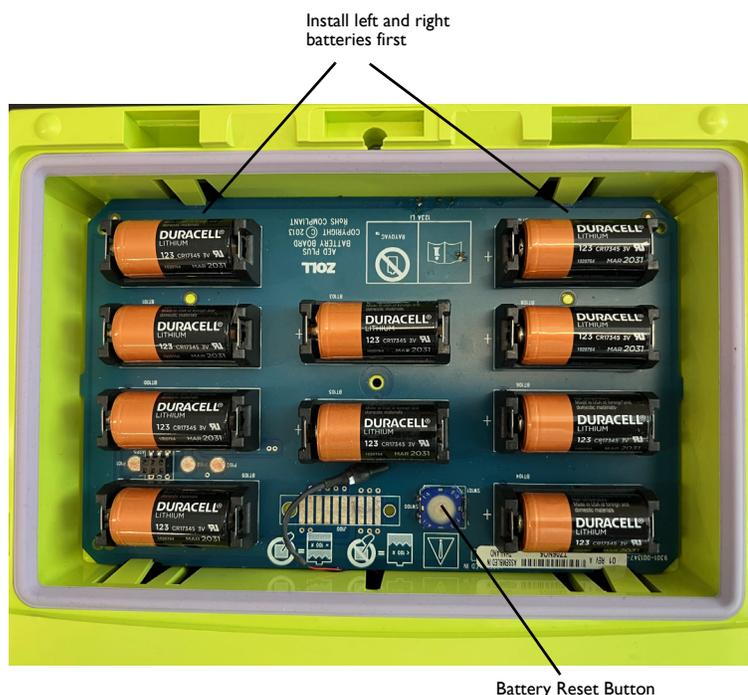

Figure 8: Battery Compartment
3. Insert the eight batteries on the left and right sides first, followed by the two batteries in the center, as shown in Figure 8 below. Observe battery polarity markings and make sure that all batteries are securely seated and properly oriented.
- After installing the new batteries, press the Battery Reset Button inside the battery compartment when prompted (see Figure 8 above). Pressing the button resets the battery usage indicator to full charge.